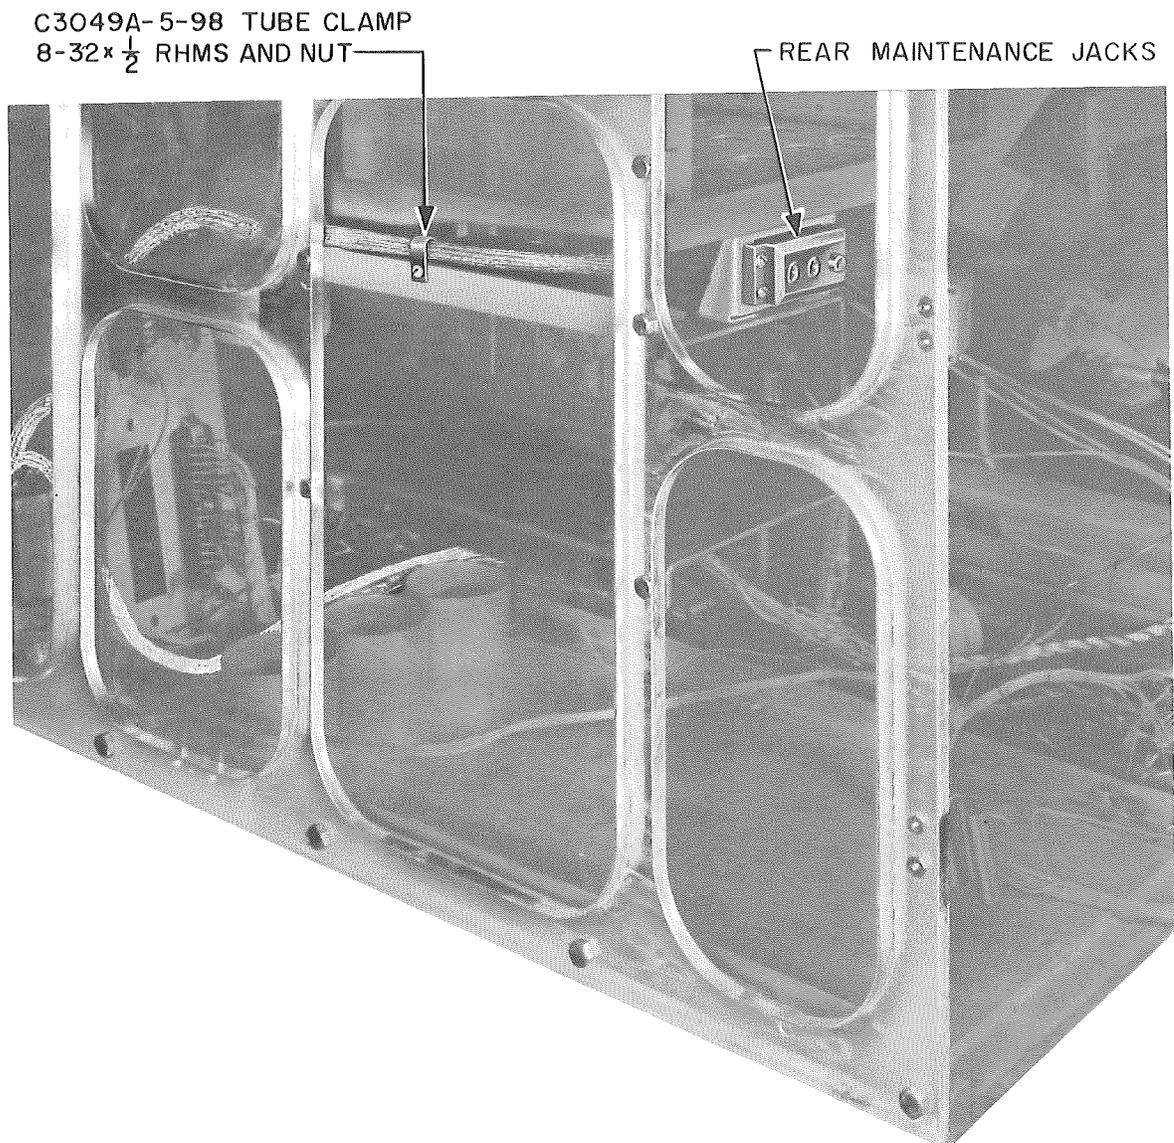

Fig. 2 — Mounting Arrangement of Maintenance Line Equipment in Rear of Situation Display Console
3.06 Cables must be placed in situation display consoles as shown in Fig. 2 through 8.